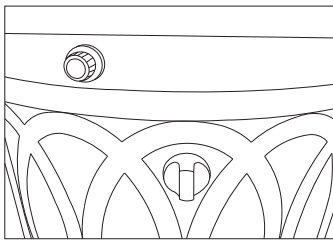
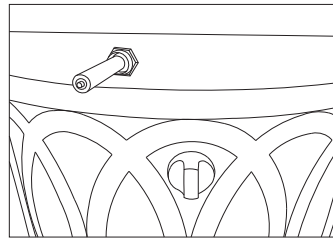
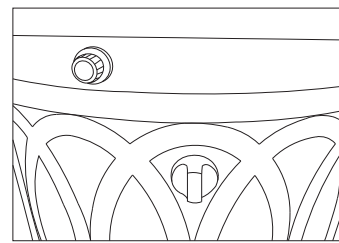

Fig. 3
Fig. 4
Fig. 5
3. Unscrew the battery box as shown in Fig. 3. Insert the negative electrode side of the battery into the bottom of battery box as shown in Fig. 4. Then replace the battery box as shown in Fig. 5.